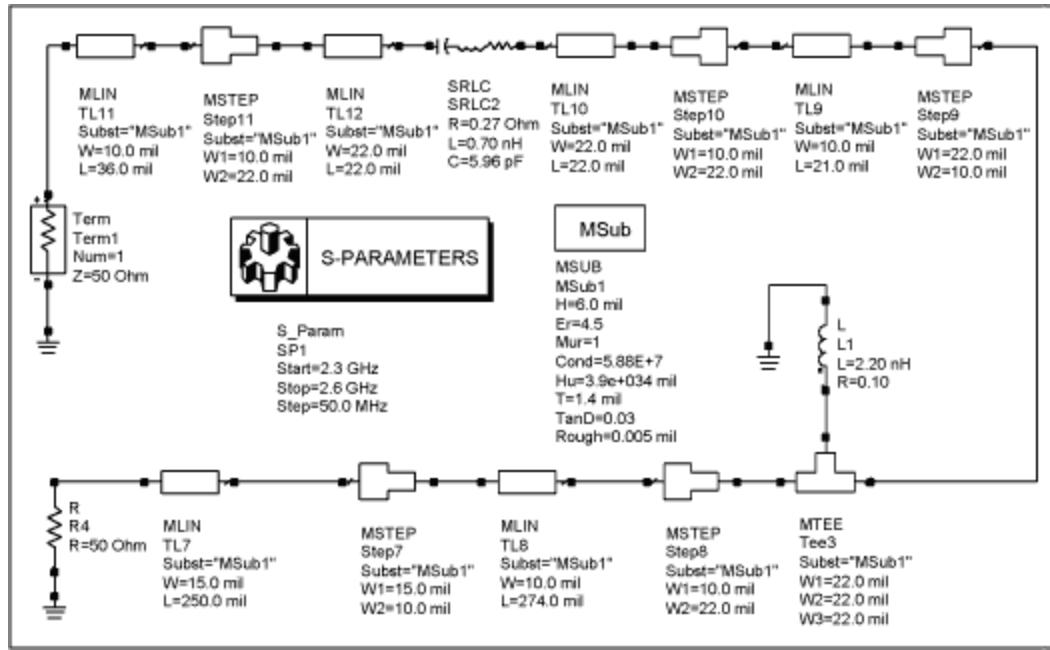

Figure 3. Input matching network.
**Figures 3 and 4** show the modeled lumped and distributed elements of the actual layout dimensions that make up the optimum input and output matching networks.